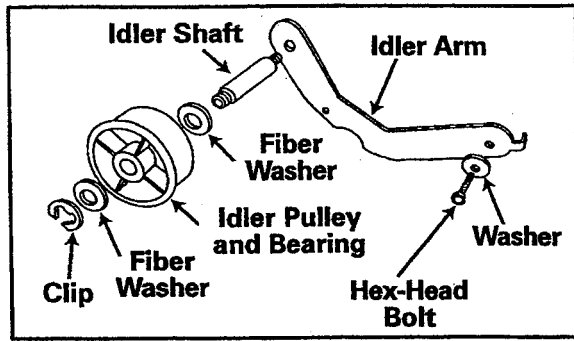

Figure 2-93
**NOTE:** *There is a fiber washer between the pulley and the idler arm. When replacing parts, be certain the order of replacement is correct (Figure 2-93).*